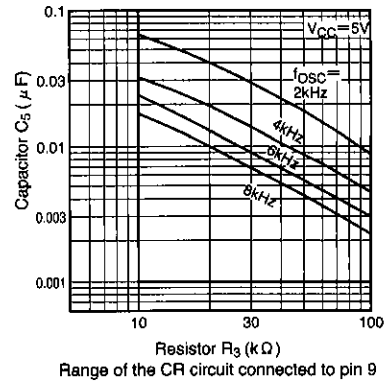

Fig. 9
(1) Use the potentiometers VR1 and VR2 connected to pins 1 and 3 to set the 0dB levels and adjust the channel 1 and channel 2 balance.
(2) The recommended oscillator frequency is 4kHz (pin 9). The external component values for C_s and R_3 are $0.01 \mu F$ and $41k\Omega$ (or $39k\Omega$). If you wish to use other values, they should be in the ranges $0.001 \mu F$ to $0.1 \mu F$ and $10k\Omega$ to $100k\Omega$. (see Fig. 9).
(3) The dynamic ranges for the BA6820F and BA6822S/F comparators are large, and the comparators will operate even with low-level signals.